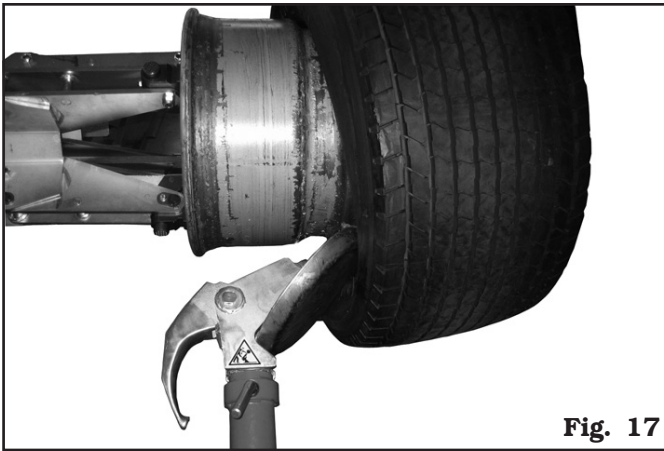

Fig. 17
- a. If the wheel does not present particular problems, continuing beading operation will completely dislodge the beads from the rim. The inner bead, pushed by the disc, presses against the outer one till it has been completely removed (see **Fig. 17**).